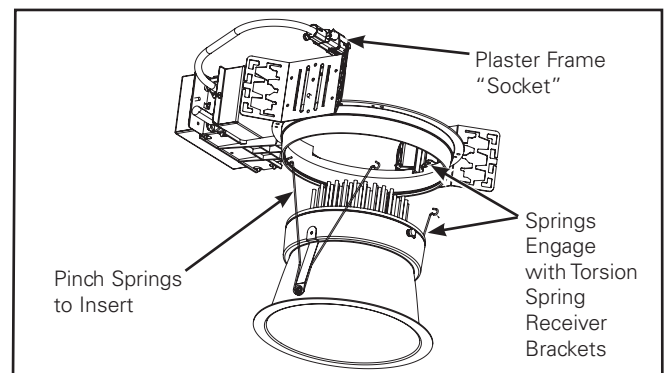

Figure 8.
- Install the LED Engine and trim assembly by inserting the torsion springs into the spring receivers located inside the housing. (Figure 8.)